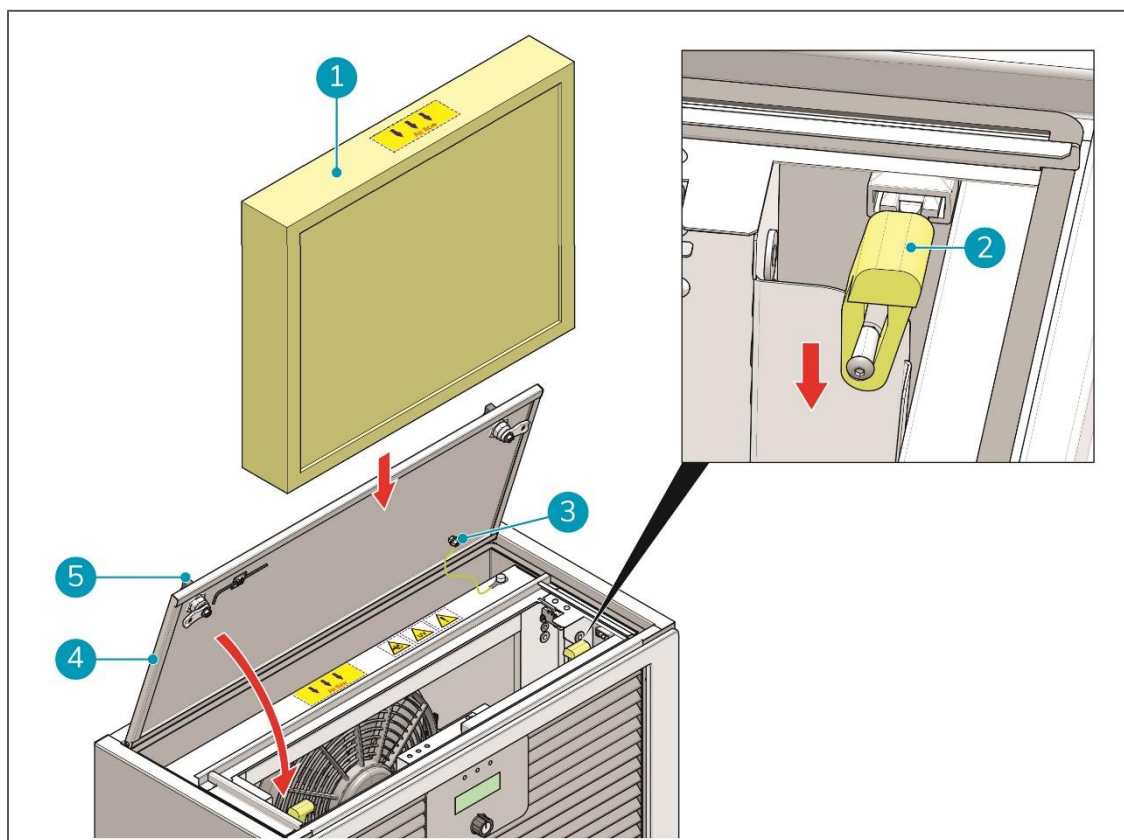

Figure 21
7. Carefully place the new filter into the compartment (Figure 21, pos. 1).
8. Push down the two yellow locking levers (Figure 21, pos. 2) to lock the filter.
9. Close the compartment panel (Figure 21, pos.4).
10. Turn the two knobs on the compartment panel (Figure 21, pos. 5) clockwise until the panel is locked.